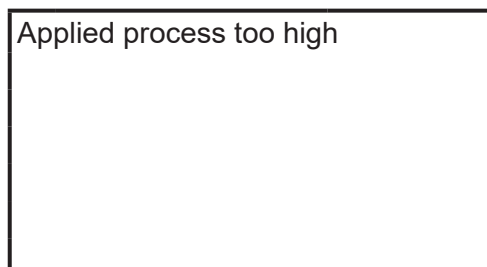

Figure 34 Zero point adjustment failure
6. If there was malfunction during zero point adjustment, a message stating that the applied process is too high will appear. (Figure 34) Select either “OK” or “ABORT” to return to the Diag/Service menu and verify that the flow fluid is completely static.